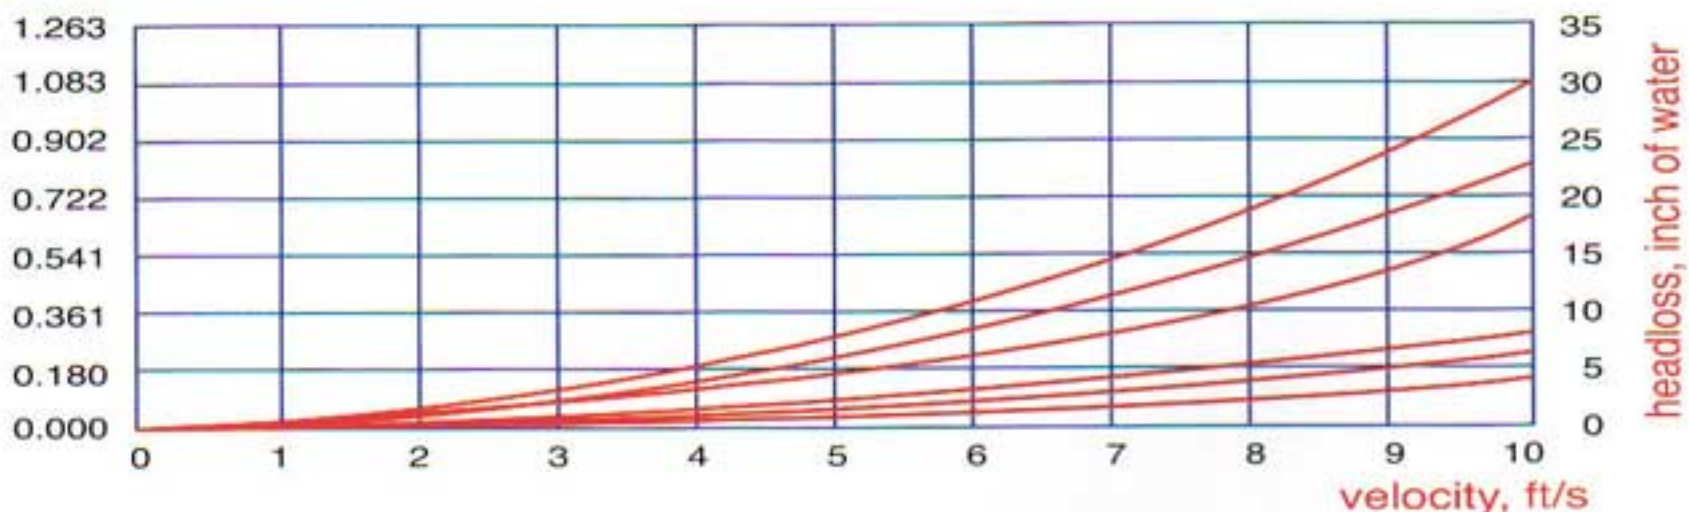

Fig.1 HEADLOSS CURVE
- * large measuring range, high pressure rating, low pressure loss (Ref. Fig.1 HEADLOSS CURVE), steady performance of operation